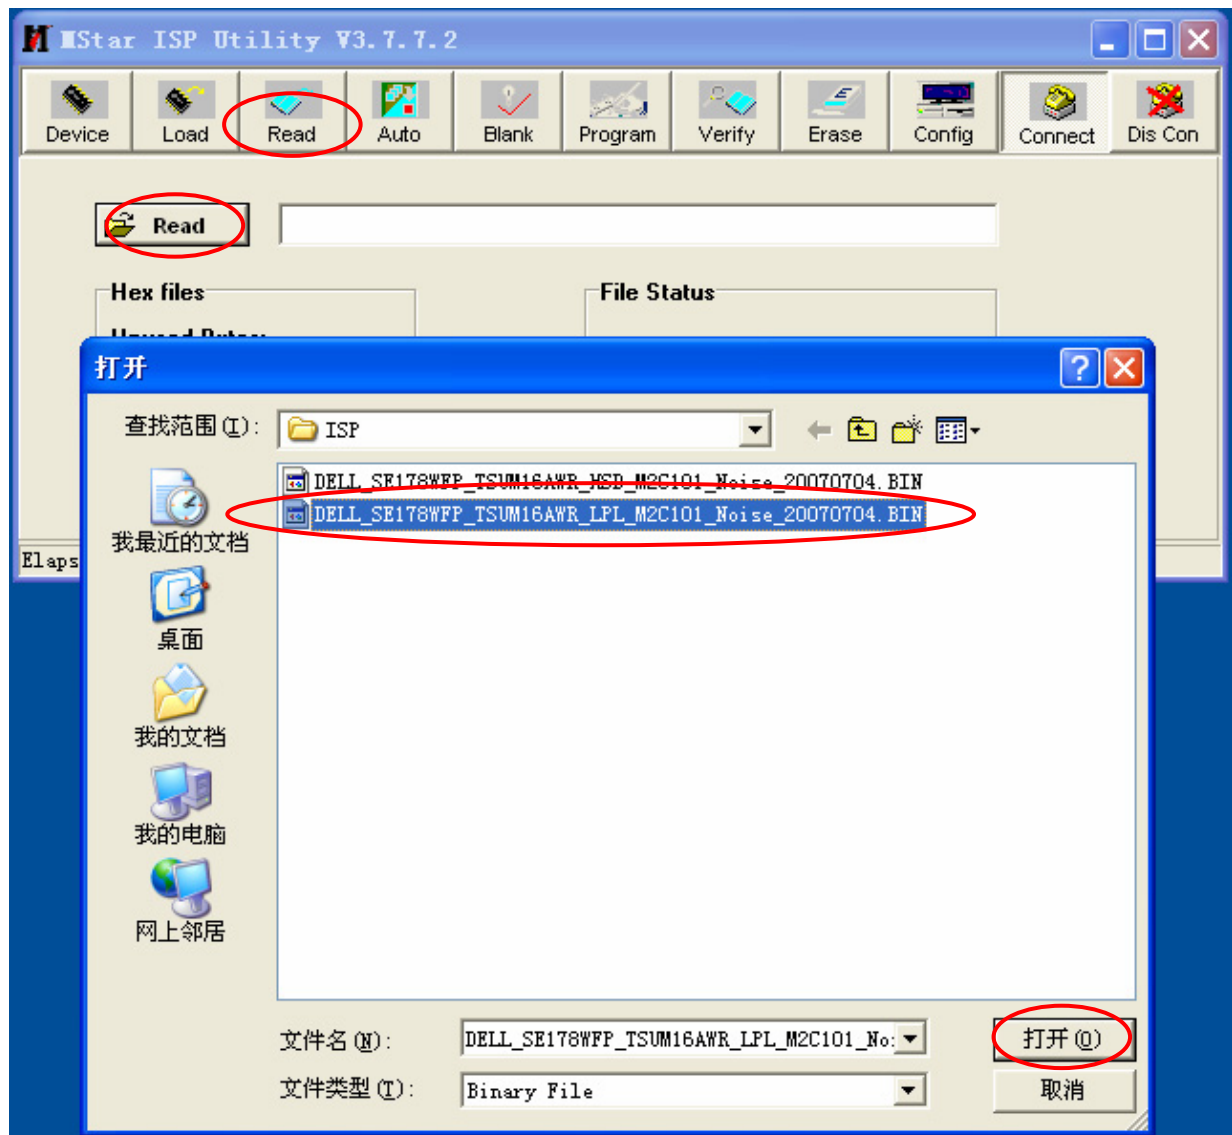

Fig.3
Step 2: Click OK and click Read, select program Bin file, bring up Fig.3